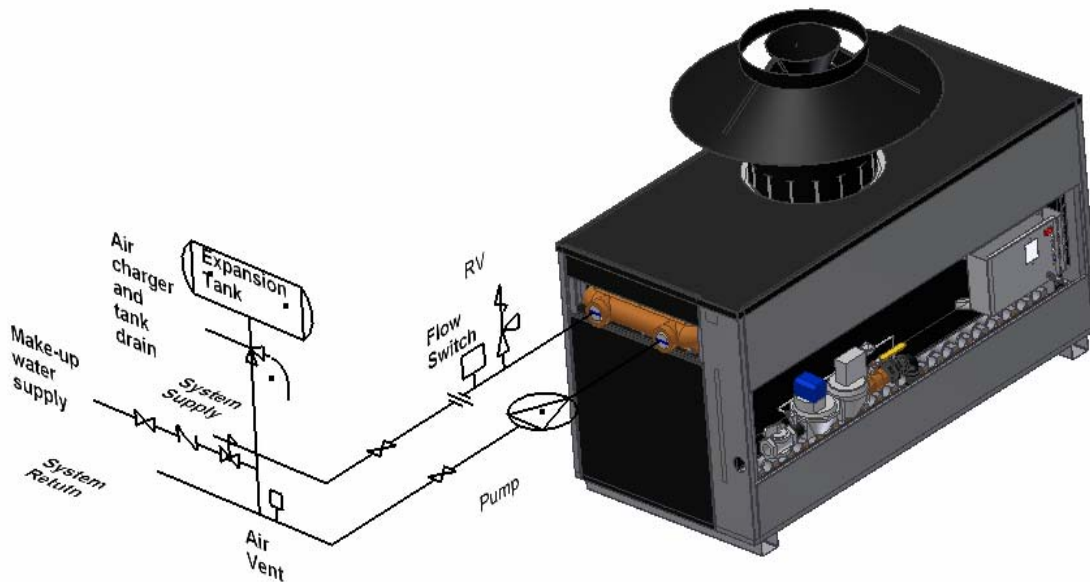

Figure 3
10. PIPING OF BOILER TO THE SYSTEM (FIG.3)